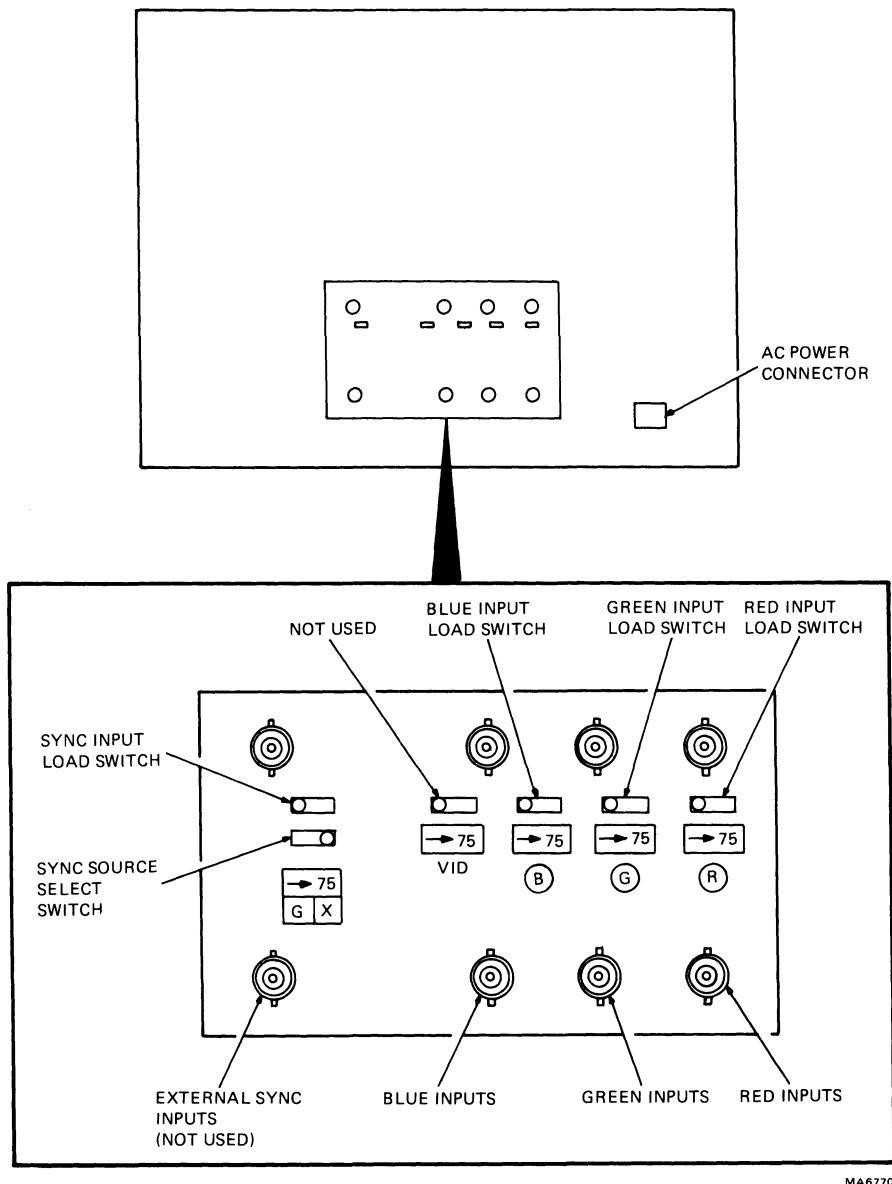

Figure 2-7 Barco Model GD33 Monitor Connections
3. Connect the color-keyed red, green, and blue cable connectors to the RED, GREEN, and BLUE input connectors on the rear of the Barco Model GD33 monitor (Figure 2-7).